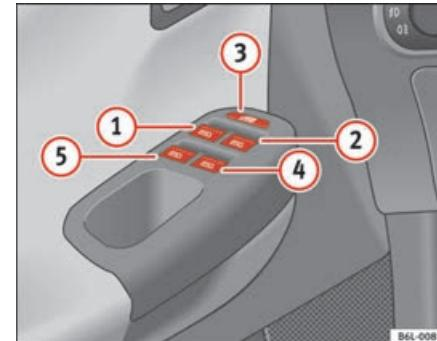

Fig. 52 Detail of driver door: controls for the front and rear windows
The buttons ⇒ page 84, fig. 52 ① and ② have two levels for opening the window and two for closing it. This makes it easier to open or close windows to the desired position.